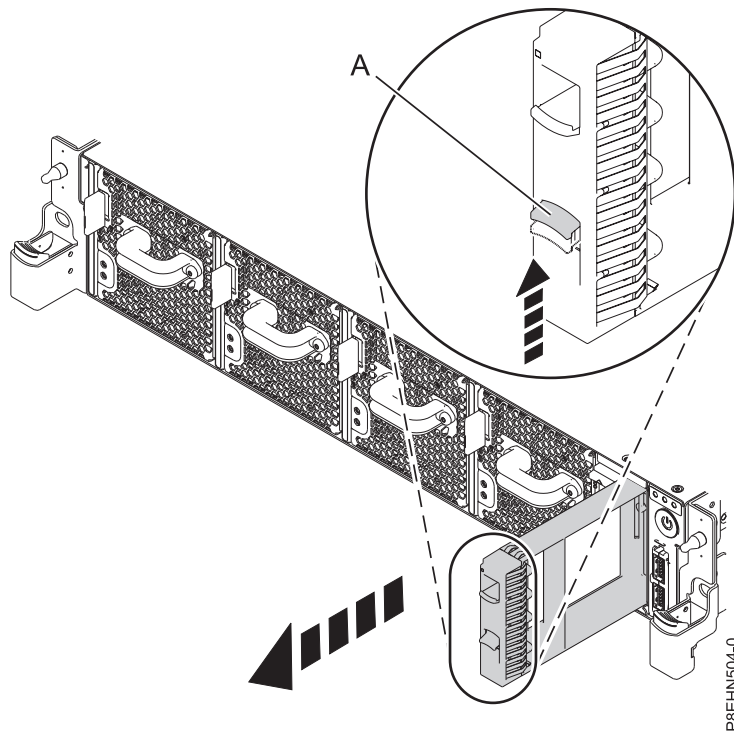

Figure 25. Removing a disk drive filler from a system.
- a. Push the lock (A) on the handle of the filler. See Figure 25.